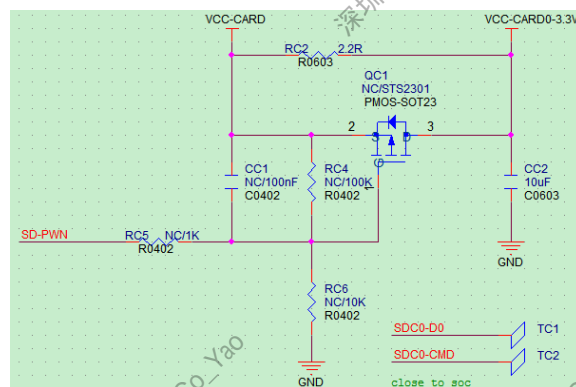

Figure 2-23 The Protect Circuit of VCC-CARD
- For VCC-CARD, it is recommended to use a power switch protection circuit to avoid damaging the system when a bad card is inserted and to improve the power quality of the SD CARD when it is powered on. To reduce the product cost, you can delete this circuit. As shown in Figure 2-23.